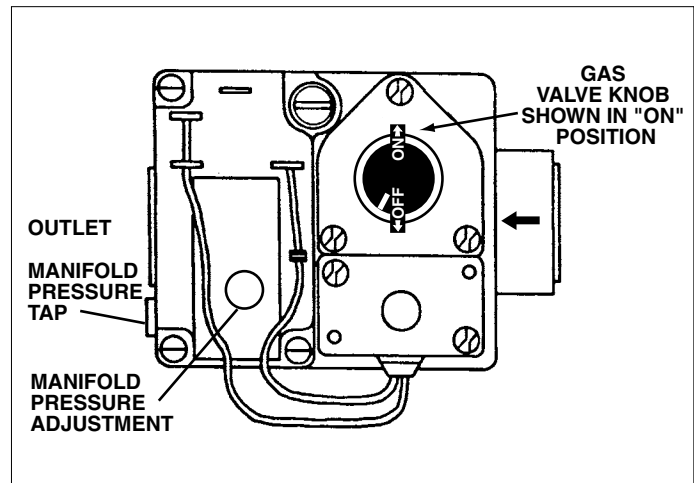

Figure 3. Gas Valve
4. With a 3/16" Allen wrench, remove the manifold pressure tap plug located on the outlet side of the gas valve. Refer to Figure 3.
10. Allow the furnace to operate for three (3) minutes and then check the manifold pressure. For Natural Gas installations, the manifold pressure should be set to 3.5" WC. If the manifold pressure is not set to the appropriate pressure, then it must be adjusted.
1. If the manifold pressure must be adjusted, then remove the protective cap from the top of the gas valve regulator, as shown in Figure 3.